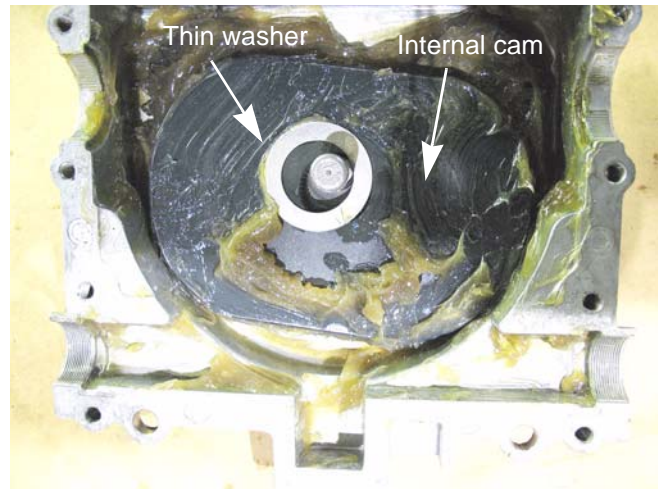

Figure 6.41
15. Remove the internal cam and the thin washer. See Figure 6.41.